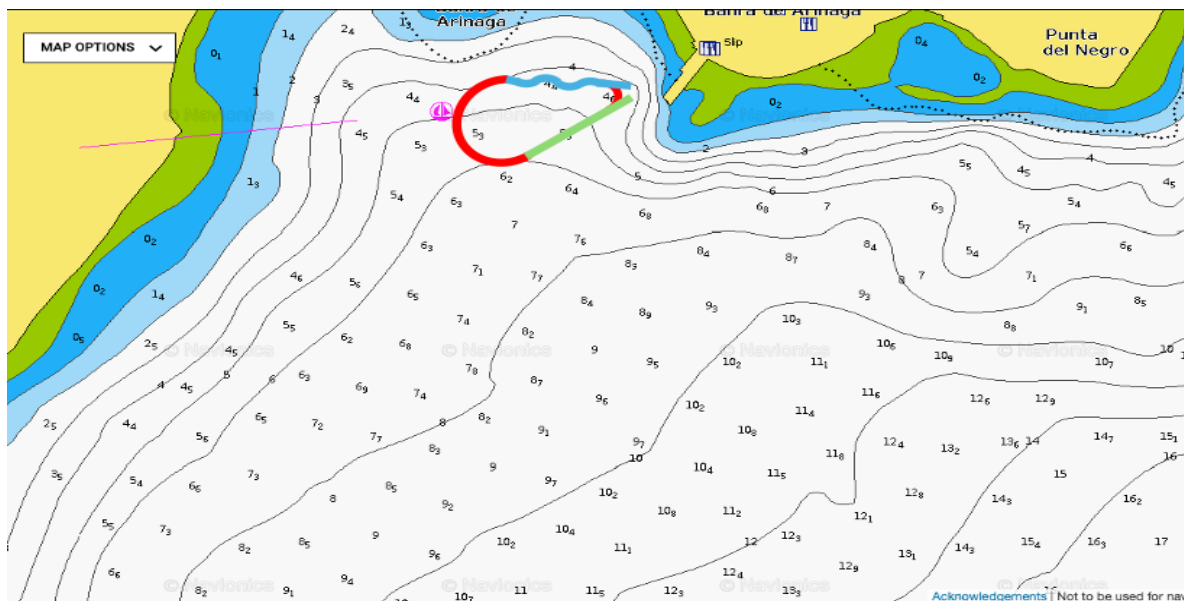

Figure 2: The indicative location of the Arena in Arinaga Bay
- D1.10. The design competition arena will be set within the bay of Arinaga in Gran Canaria, as shown in Figure 2.